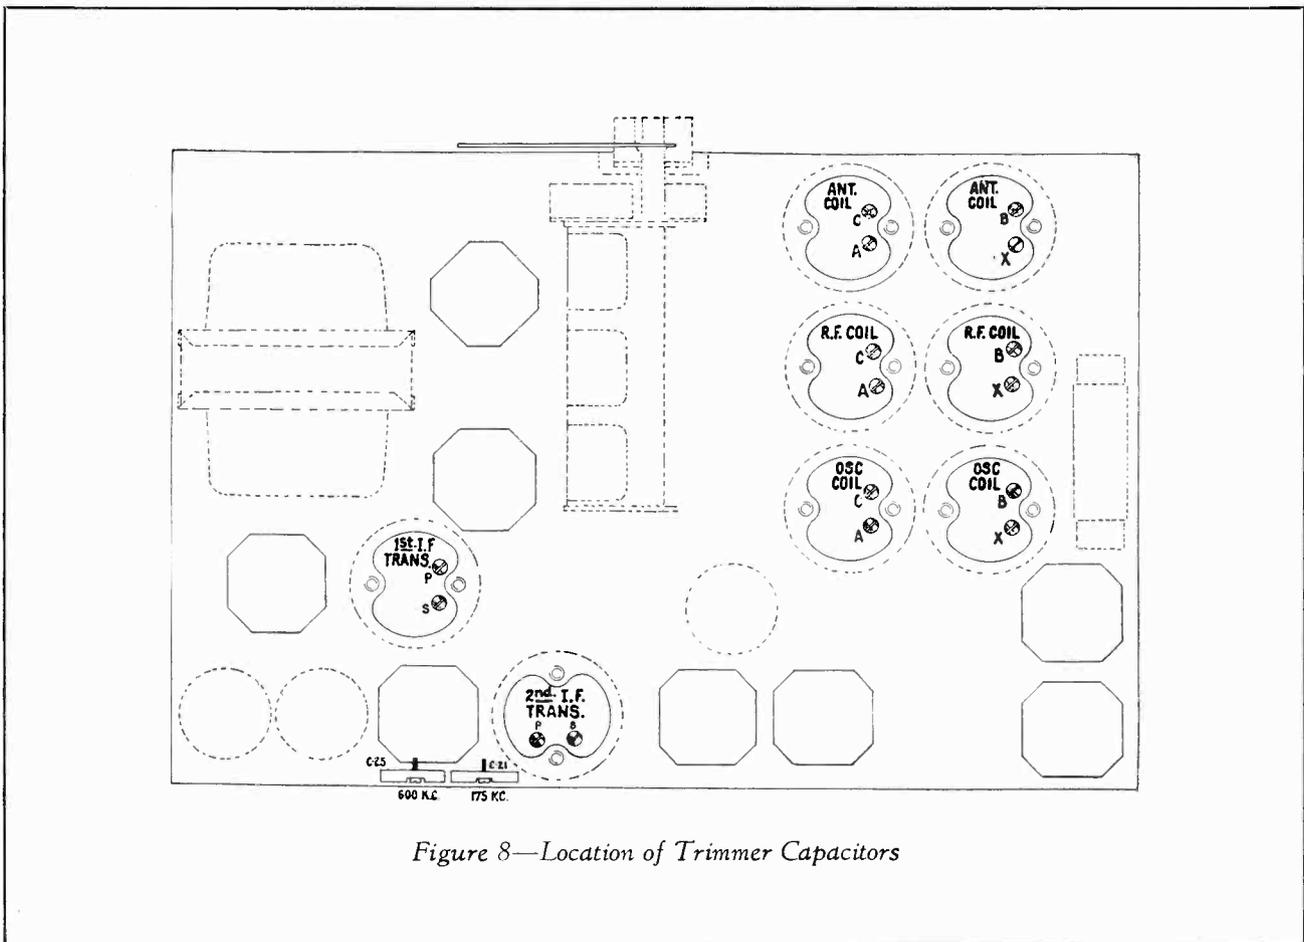

Figure 8—Location of Trimmer Capacitors
- (c) Refer to Figure 8. Adjust each trimmer of the I. F. transformers until maximum output is obtained. Go over the adjustments a second time.
Figure 8 shows the location of the trimmers for each band. Care must be exercised to only adjust the trimmers in the band under test.
mer, marked 175 K.C. on Figure 8, for maximum output, at the same time rocking the variable tuning capacitor. Then readjust at 410 K.C. as described in (b).
- (c) Shift the external oscillator frequency to 600 K.C. Tune in the 600 K.C. signal, irrespective of scale calibration, and adjust the series trimmers, marked 600 K.C., Figure 8, for maximum output, at the same time rocking the variable tuning capacitor. Then readjust at 1,720 K.C. as described in (b).